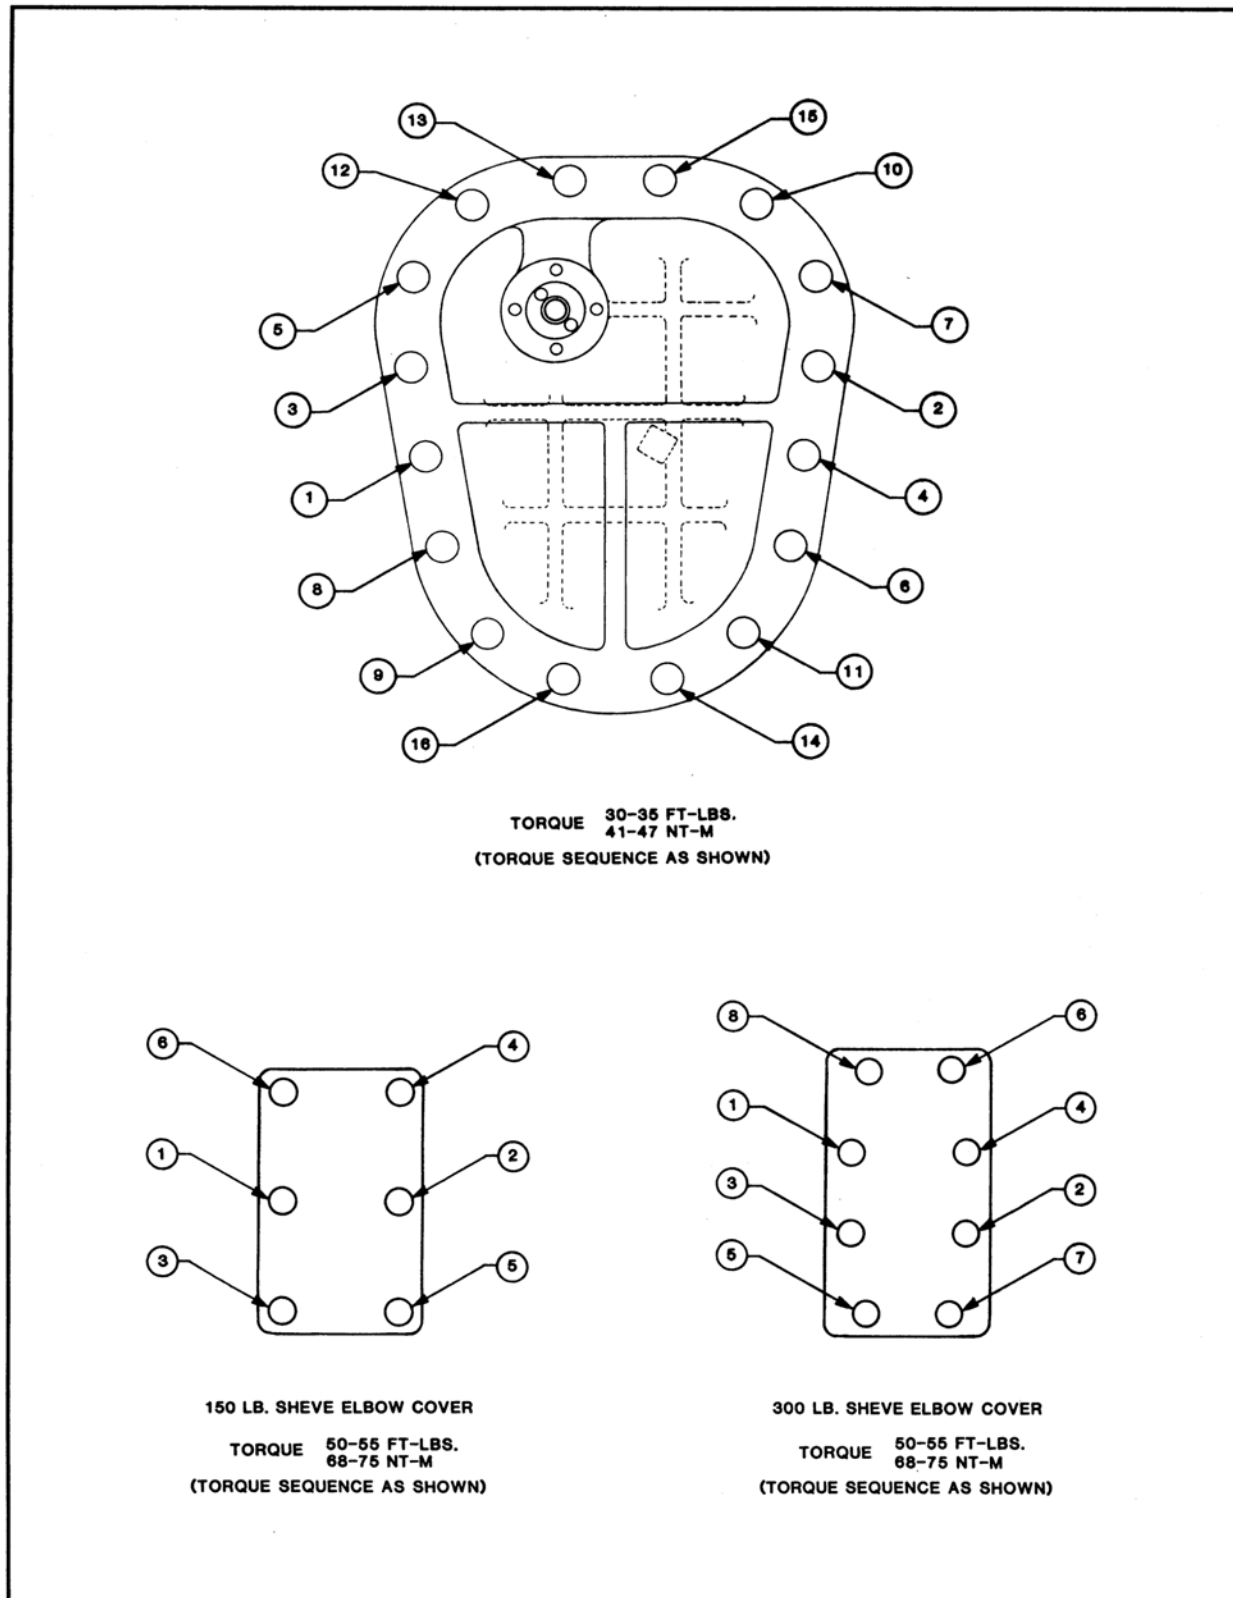

Figure 3-7: Torque Sequence
Figure 3-7 shows the torque sequence.
Remove the installation crank. If auxiliary equipment was not installed, replace the back cover and its gasket. Using the torque sequence shown in Figure 3-7 on page 23 torque the bolts to 30 ft.-lbs. (41 Nm). If auxiliary equipment was installed, seat the magnetic coupling with the auxiliary adapter coupling and replace the back cover with the auxiliary unit adapter attached. Check the operation of the auxiliary unit as appropriate.
2. Torque the bolts as shown in the Figure 3-7 on page 23.